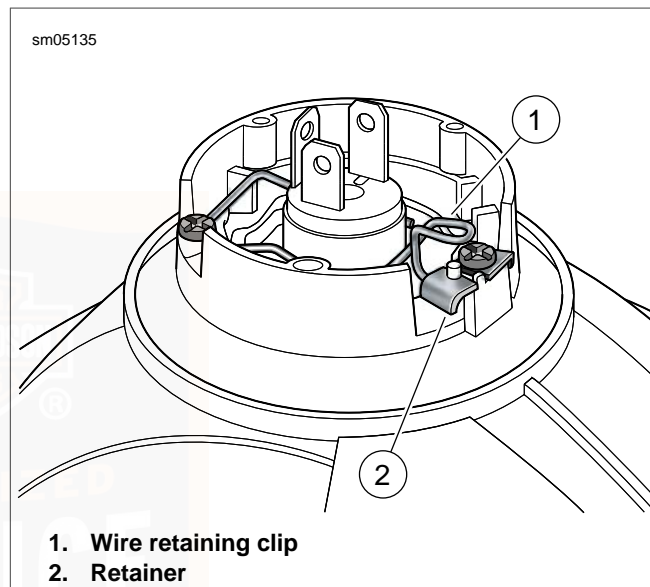

Figure 47. Wire Retaining Clip
7. See Figure 47. Push down the wireform loop to release it from the retainer. Swing wireform out of the way.
2. See Figure 47. Rotate wireform into place and latch under lip of retainer.